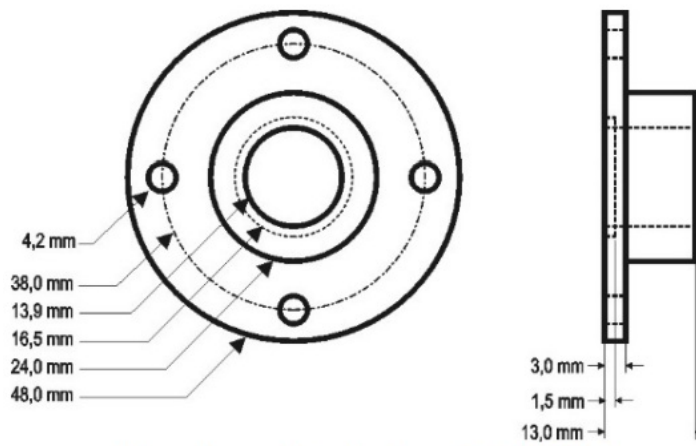

Figure 1 – Mounting flange for RHT-DM
- The RHT-DM (Duct Mount) model must be attached with a flange. The flange is attached to the duct wall. After this, the transmitter probe must be inserted into the flange center hole and then fixed. Figure 1 shows the dimensions and drilling of the polyamide 6.6 flange: